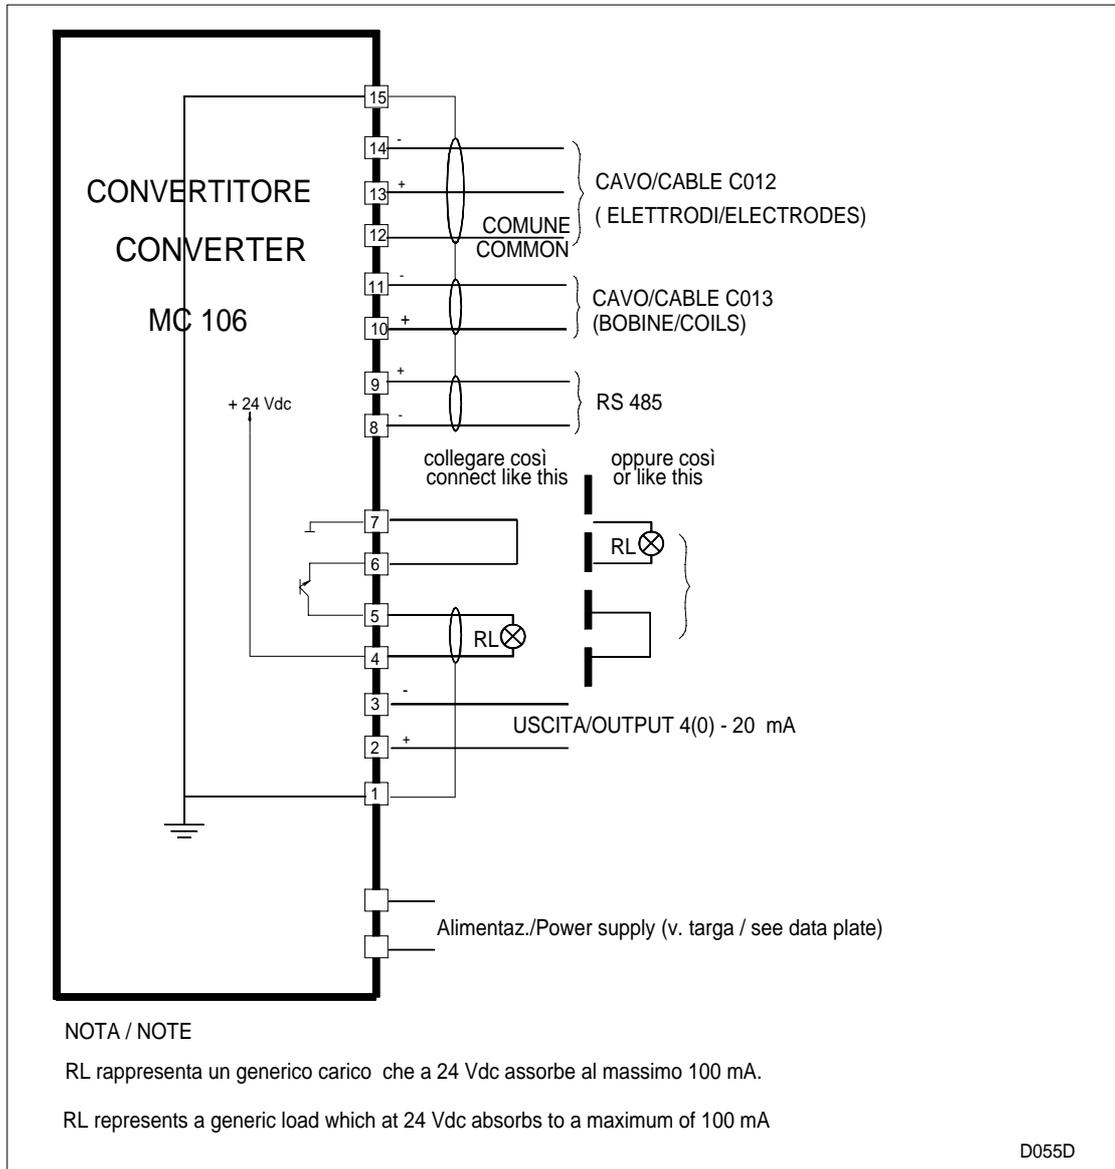
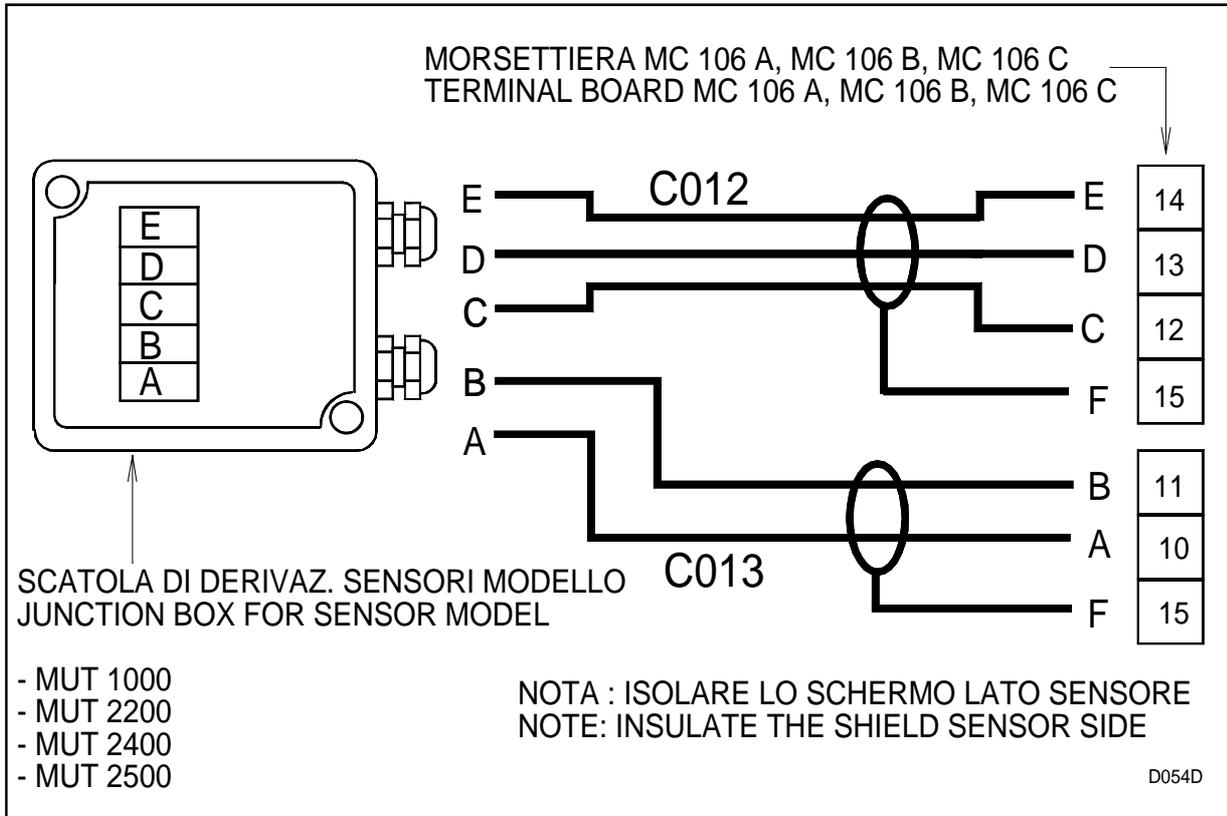

Fig. 3
Fig. 4
Fig. 3 shows the connection board of the converter and the function of each terminal.
The connection between converter and sensor is made by the two cables C012 and C013 following carefully the instruction illustrated in fig. 4.
**12.3.2** - In addition to connection of the cables C012 and C013 as illustrated in fig. 4, the following must also be connected (see fig. 3):